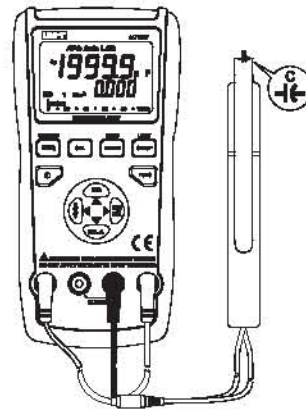

Figure 11
- 3) Insert the capacitor into input terminals or connect the capacitor to the meter using the test clamp (See Figure 11).